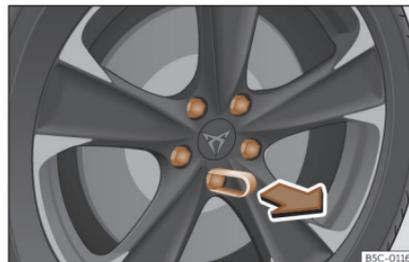

Fig. 165 Wheel: wheel nuts with caps. »
- Fit the plastic clip (vehicle tools)»» Fig. 143) over the cap until it clicks into place »» Fig. 165.